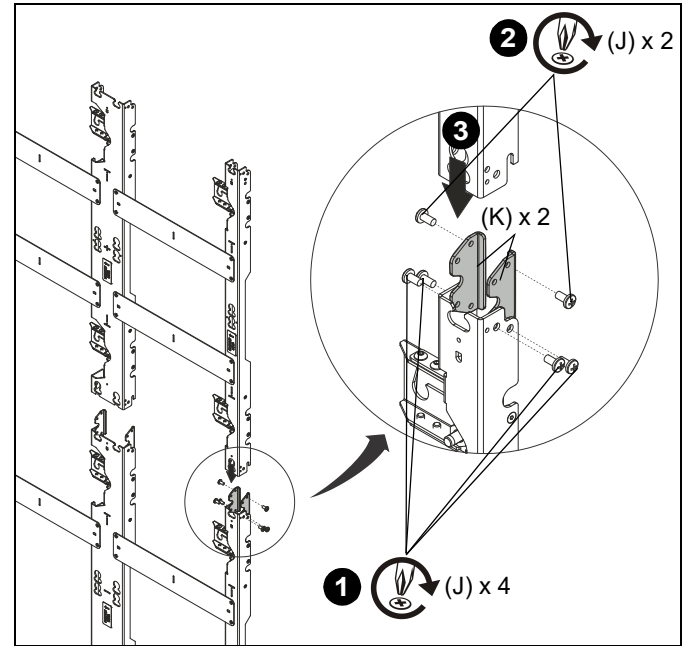
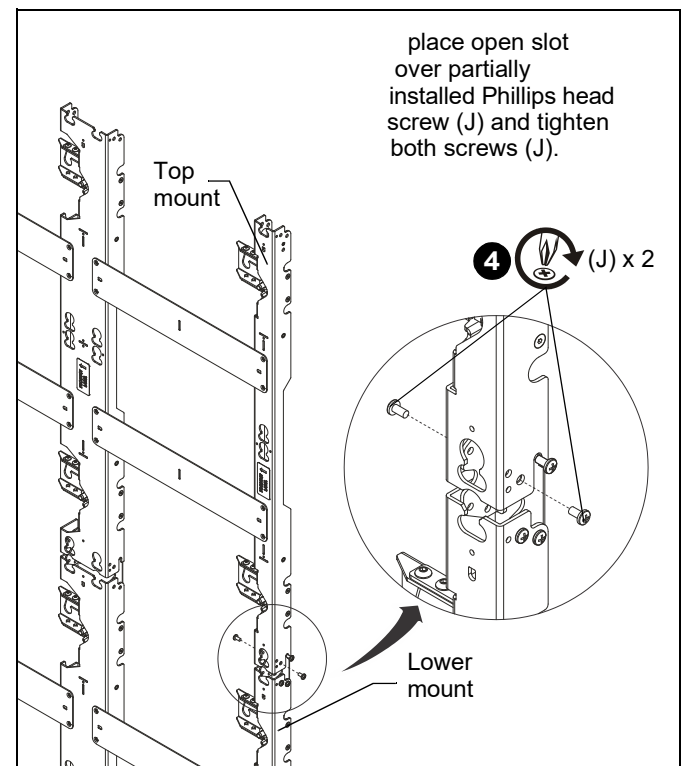

Figure 7
Figure 8
1. Add the vertical connector (K) to the top or bottom of the mount, and fasten with four 1/4-20 x 1/2" Phillips pan head screws (J) per vertical connector (K). (See Figure 7)
2. Partially install two 1/4-20 x 1/2" Phillips pan head screws (J) into top or bottom screw holes on connectors (K). (See Figure 7)
3. Connect another wall mount to the other end of the vertical connector (K) by placing open slot over partially installed screws (J). (See Figure 7) and (See Figure 8)
4. Install two 1/4-20 x 1/2" Phillips pan head machine screws (J) into inside holes on connectors (K). (See Figure 8)
5. Tighten screws partially installed in Step 2 to secure mount to connectors (K). (See Figure 8)
NOTE: When connecting a mount to the bottom of an installed mount, the lower mount may be hung by its open slot on the partially installed Phillips head screw (J) before tightening the connection. (See Figure 8)